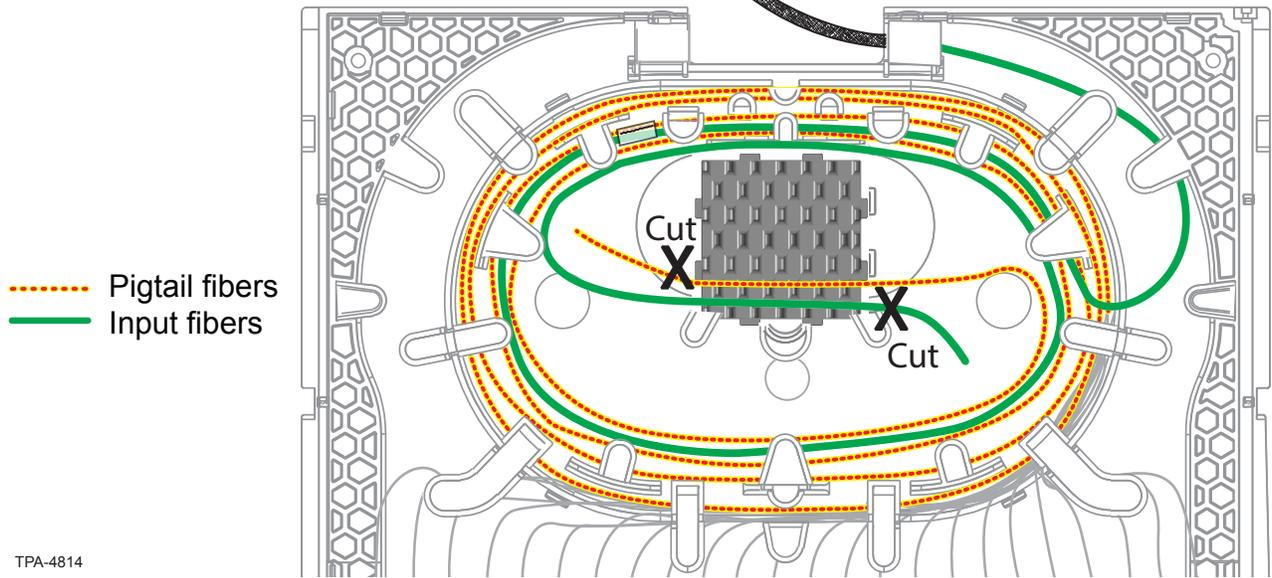

Figure 56
- Step 13:** Bring input fibers into the splice organizer on one side of the organizer (Figure 56).
- Step 16:** Cut the ribbon fibers at the outer edge of the splice organizer (Figure 56).